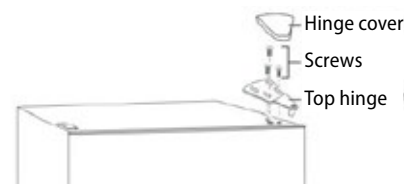

Fig. 1
2. Unscrew the 3 screws securing the top hinge. Fig.1